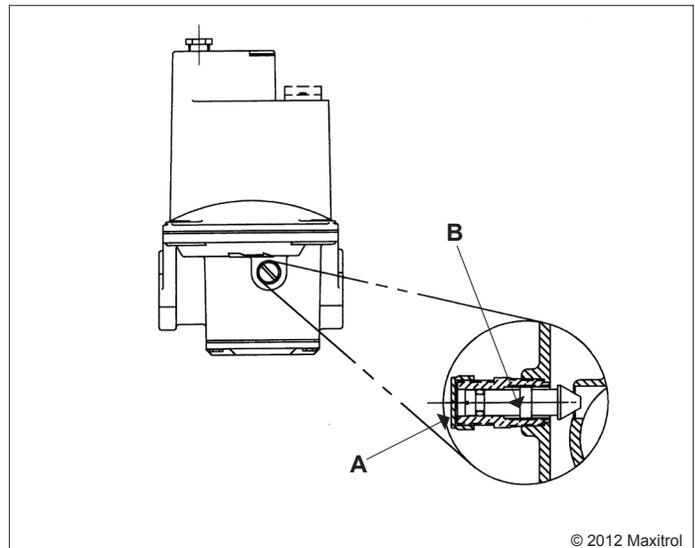

Figure 1: Valve Adjustment
Remove by-pass cap (A) and turn screw (B) using small screwdriver to desired low fire adjustment. (See Figure 1)